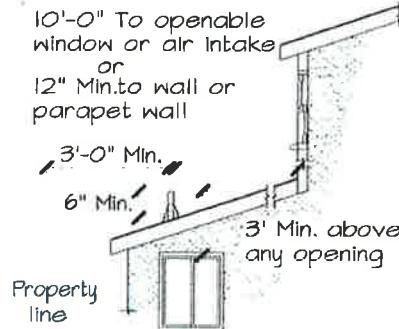

Figure V-1 VENT TERMINATION
- Vents pipes shall extend through and terminate not less than 6" above the roof nor less than 1 ft. from any vertical surface. Also, each vent shall terminate not less than 10 ft. from, or at least 3 ft. above any openable window, door, opening, air intake, or vent shaft, nor less than 3 feet from any property line, except public right of way. See Figure V-1 to for a general illustration of these requirements.